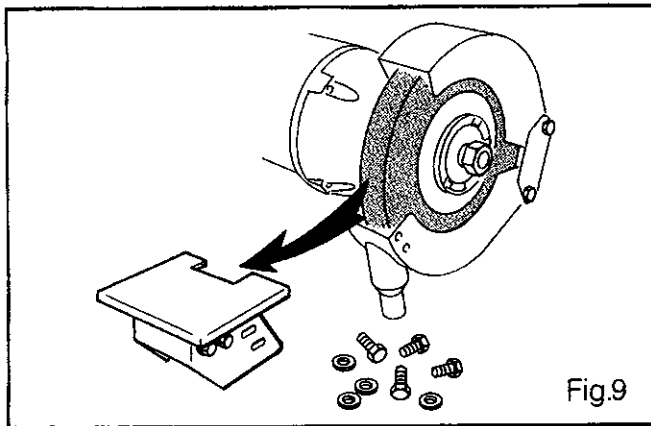

Fig.9
- 1 Remove toolrest table / support unit from wheel cover as figure 9. It's 4 fixing bolts for one unit.